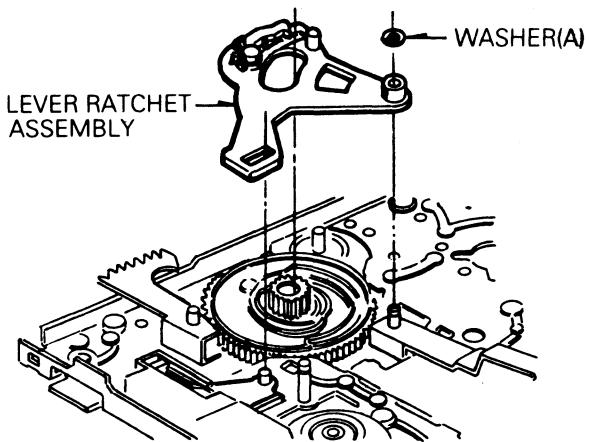

Fig. B-24-1 Lever Ratchet Assembly
- 1) Remove the washer(A) and remove the Ratchet Lever Assembly.(Fig. B-24-1).